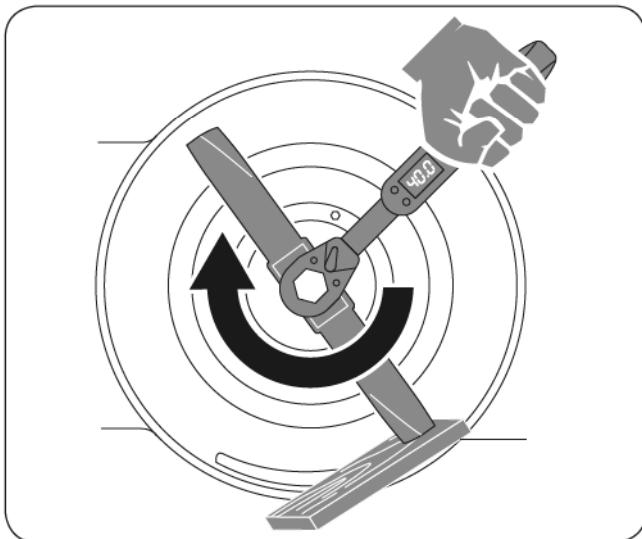

Figure 20
5. Install the new blade. Use a block of wood between the blade and lawn mower housing and tighten the blade bolt, turning clockwise. The recommended tightening torque is 33.3-40 ft.-lb. (45-55 Nm). (See Figure 20)